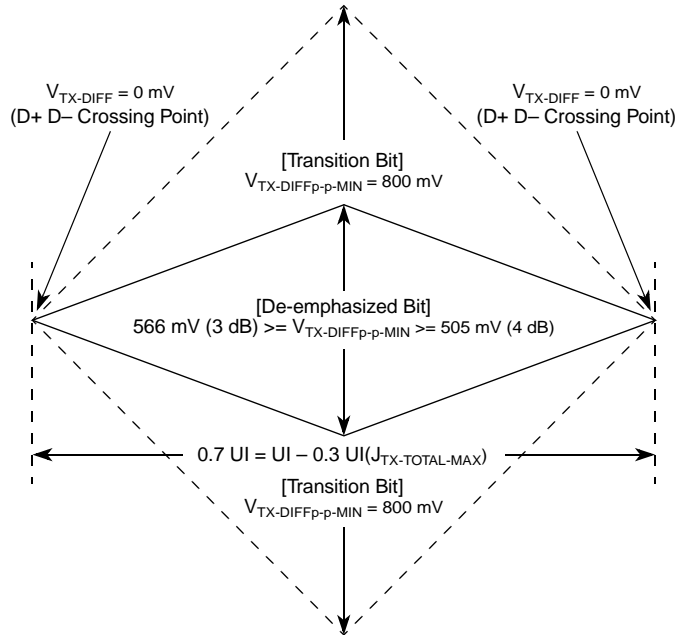
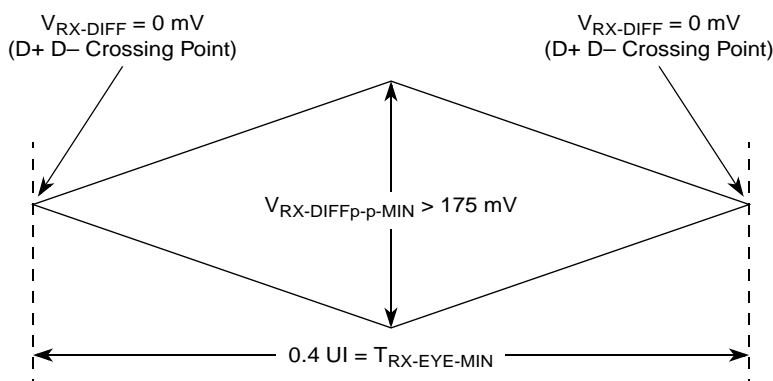
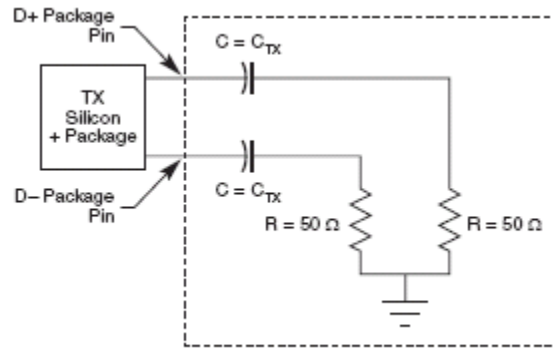

Figure 50. Minimum Transmitter Timing and Voltage Output Compliance Specifications
Figure 51. Minimum Receiver Eye Timing and Voltage Compliance Specification
Figure 52. Compliance Test/Measurement Load
2. Specified at the measurement point into a timing and voltage compliance test load as shown in Figure 52 and measured over any 250 consecutive TX UIs. (Also refer to the transmitter compliance eye diagram shown in Figure 50.)
4. The transmitter input impedance shall result in a differential return loss greater than or equal to 12 dB and a common mode return loss greater than or equal to 6 dB over a frequency range of 50 MHz to 1.25 GHz. This input impedance requirement applies to all valid input levels. The reference impedance for return loss measurements is 50  $\Omega$  to ground for both the D+ and D- line (that is, as measured by a vector network analyzer with 50- $\Omega$  probes, see Figure 52). Note that the series capacitors,  $C_{TX}$ , is optional for the return loss measurement.
5. Measured between 20%–80% at transmitter package pins into a test load as shown in Figure 52 for both  $V_{TX-D+}$  and  $V_{TX-D-}$ .
The TX eye diagram in Figure 50 is specified using the passive compliance/test measurement load (see Figure 52) in place of any real PCI Express interconnect + RX component. There are two eye diagrams that must be met for the transmitter. Both diagrams must be aligned in time using the jitter median to locate the center of the eye diagram. The different eye diagrams differ in voltage depending on whether it is a transition bit or a de-emphasized bit. The exact reduced voltage level of the de-emphasized bit is always relative to the transition bit.
2. Specified at the measurement point and measured over any 250 consecutive UIs. The test load in Figure 52 should be used as the RX device when taking measurements (also refer to the receiver compliance eye diagram shown in Figure 51). If the clocks to the RX and TX are not derived from the same reference clock, the TX UI recovered from 3500 consecutive UI must be used as a reference for the eye diagram.
4. The receiver input impedance shall result in a differential return loss greater than or equal to 15 dB with the D+ line biased to 300 mV and the D- line biased to -300 mV and a common mode return loss greater than or equal to 6 dB (no bias required) over a frequency range of 50 MHz to 1.25 GHz. This input impedance requirement applies to all valid input levels. The reference impedance for return loss measurements for is  $50 \Omega$  to ground for both the D+ and D- line (that is, as measured by a vector network analyzer with  $50\text{-}\Omega$  probes, see Figure 52). Note that the series capacitors,  $C_{TX}$ , is optional for the return loss measurement.
The RX eye diagram in Figure 51 is specified using the passive compliance/test measurement load (see Figure 52) in place of any real PCI Express RX component. In general, the minimum receiver eye diagram measured with the compliance/test measurement load (see Figure 52) is larger than the minimum receiver eye diagram measured over a range of systems at the input receiver of any real PCI Express component. The degraded eye diagram at the input Receiver is due to traces internal to the package as well as silicon parasitic characteristics which cause the real PCI Express component to vary in impedance from the compliance/test measurement load. The input receiver eye diagram is implementation specific and is not specified. RX component designer should provide additional margin to adequately compensate for the degraded minimum Receiver eye diagram (shown in Figure 51) expected at the input receiver based on an adequate combination of system simulations and the return loss measured looking into the RX package and silicon. The RX eye diagram must be aligned in time using the jitter median to locate the center of the eye diagram.
The reference impedance for return loss measurements is 50  $\Omega$  to ground for both the D+ and D- line (that is, as measured by a Vector Network Analyzer with 50  $\Omega$  probes—see Figure 52). Note that the series capacitors,  $C_{PEACCTX}$ , are optional for the return loss measurement.
The AC timing and voltage parameters must be verified at the measurement point, as specified within 0.2 inches of the package pins, into a test/measurement load shown in Figure 52.